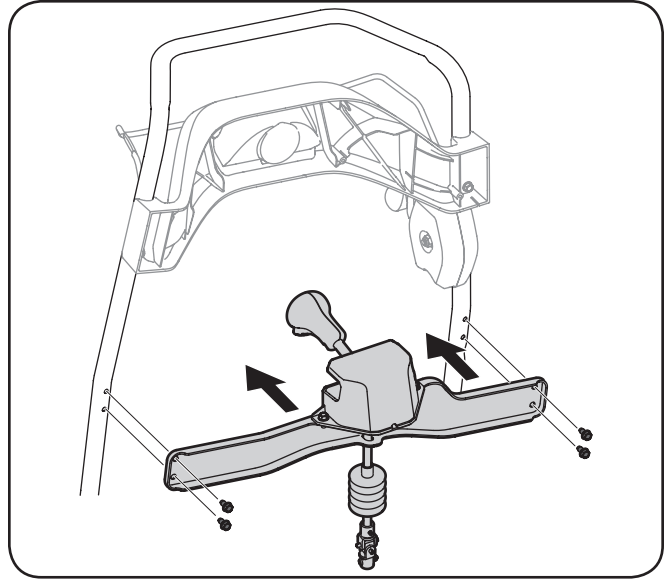

Figure 3-8
2. Using the four hex washer screws, install the chute rotation control assembly. See Figure 3-8.